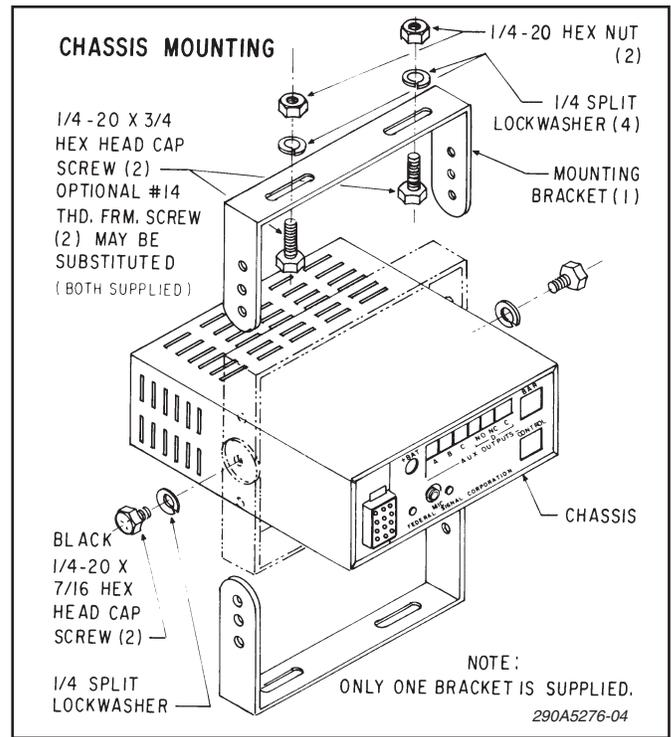

Figure 3-3.
C. Secure the mounting bracket to the mounting surface with (2 each) 1/4-20 x 3/4 hex head screws, 1/4 split lockwashers and 1/4-20 hex nuts as shown in figure 3-3.